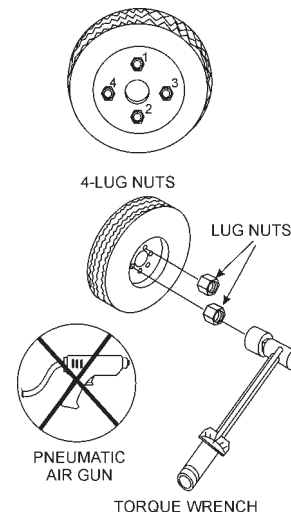

Figure 23. Lug Nut Torque Sequence
2. Torque all lug nuts in sequence. See Figure 23. **DO NOT** torque the wheel lug nuts all the way down. Tighten each lug nut in 3 separate passes as defined by Table 5.
3. After first road use, retorque all lug nuts in sequence (Figure 23). Check all wheel lug nuts periodically.